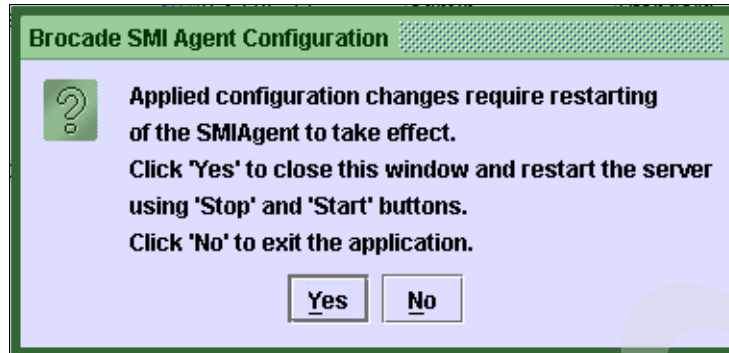

Figure 6-96 Select No to exit
- Click **Apply**. This adds the switch to the configuration. For the configuration changes to take effect, we stop and start the Brocade SMI Agent service. You can use the Stop and Start Server options available on the lower left of the tool panel, but we recommend that you exit the tool, which reminds you if you need to restart the Agent. Select **No** and restart the service manually (see Figure 6-96).